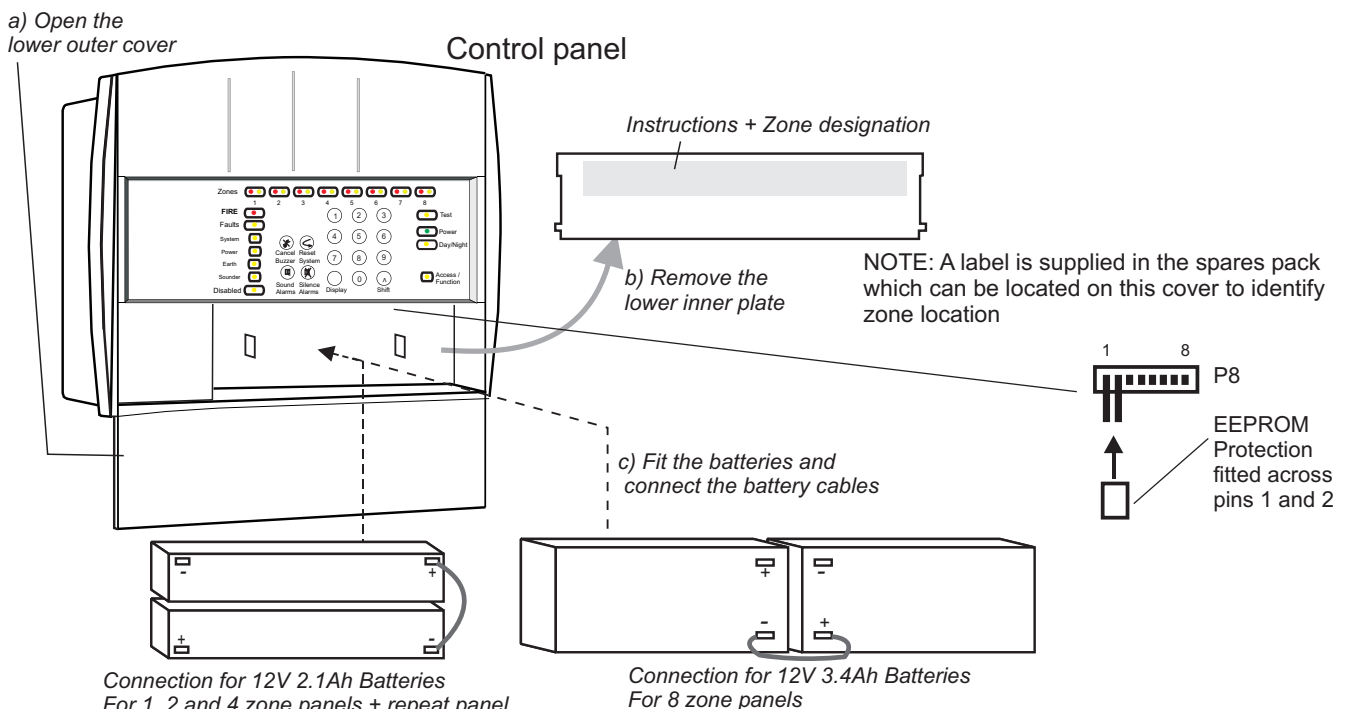

Figure 14 Battery installation and EEPROM protection link
- d) Now connect the battery supply, see *Figure 14*.
**NOTE:** Ensure that the EEPROM protection link is fitted to connector P8, see *Figure 14*.
- b) Fix the label over the zone designation part of the lower inner plate, see *Figure 14*.